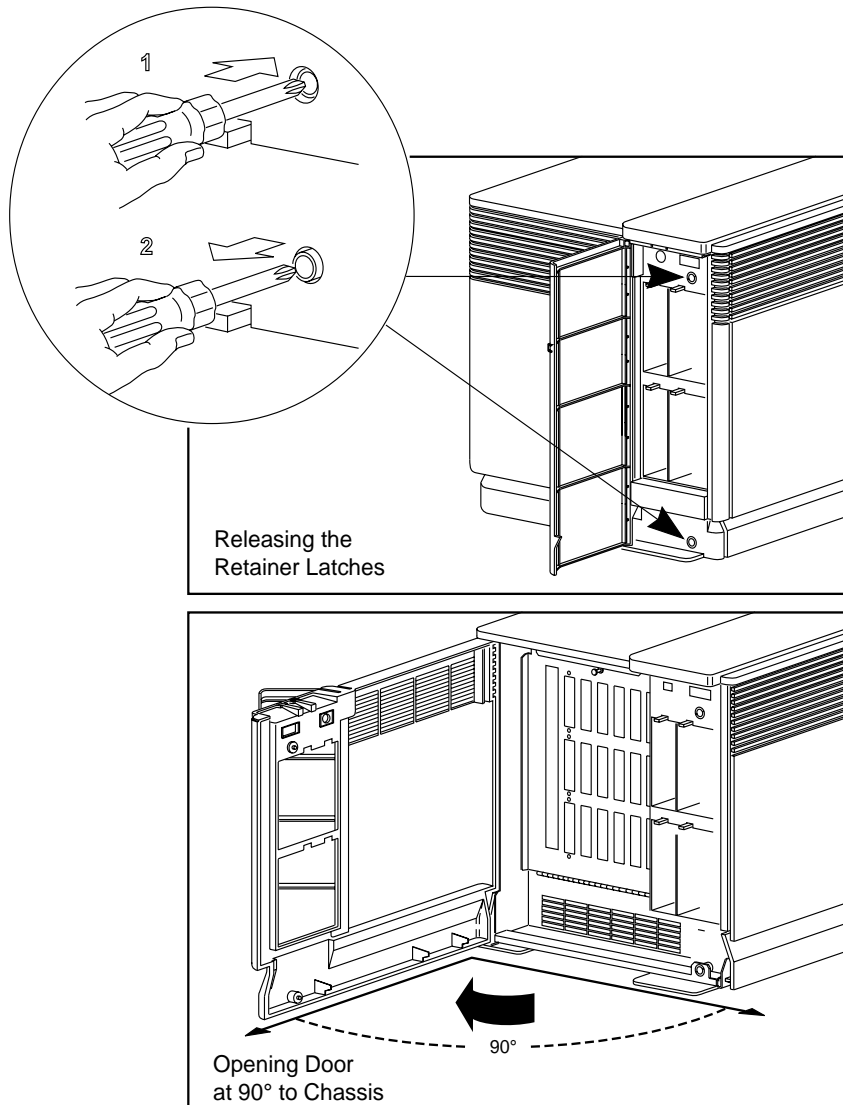

Figure 3-1 Opening the Front Door
4. Open the front door and I/O door on the system (Figures 3-1 and 3-2).
3. Open the front door and the I/O door on the chassis as shown in Figures 3-1 and 3-2.